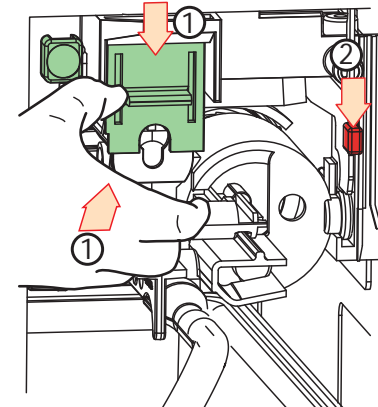

Figure 4-16
8. Carefully replace the brewing group. Push the locking lever (2) downwards. Push the lever (1) on the right down (see figure 4-16).